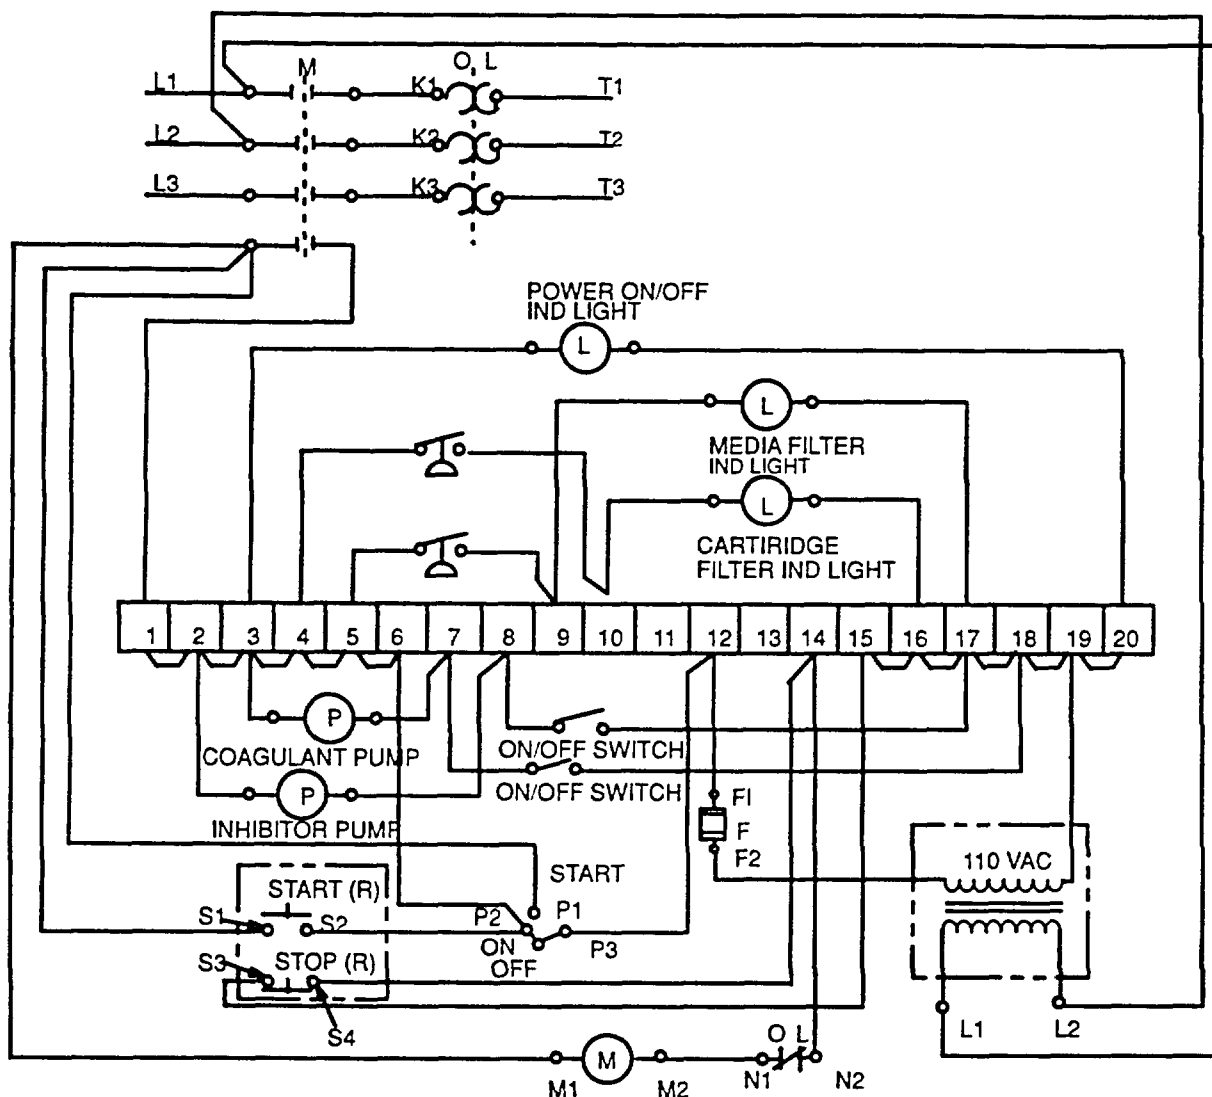

Figure 4-1. ROWPU Control Station Schematic
- a. With main circuit breaker P6 or P7 on switchboard closed (ON). Check control station input line voltage across points L1 and L2, L2 and L3, and L1 and L3 (Figure 4-1). If voltage across any two points is 0, power source is at fault. Go to step b to correct problem. If voltage across all three pairs of points is 440, go to step c to check control station output voltage.
- c. Check control station output line voltage across points T1 and T2, T2 and T3, and T1 and T3. If voltage reading across any of the terminal pairs is 0, check motor controller thermal units using Figure 4-1 as given in step d below. If voltage across all terminal pairs is 440, pump motor is at fault and check motor as given in paragraph 4-7.2.1.
- (1) Check continuity of ON/OFF/START switch in ON position from terminal board TB12 to TB6. If check indicates a closed circuit, go to step (2). If check indicates an open circuit, check continuity of wires from points P1 to TB6 and TB12 to P3. If check indicates an open circuit in wire, replace faulty wire. If check indicates a closed circuit in both wires, replace faulty ON/OFF/START switch.
- (2) Depress pump 1 or pump 2 local STOP switch and check continuity from TB14 to TB15. If check indicates closed circuit, go to step (3). If check indicates an open circuit, check continuity of wires from TB14 to S4 and TB 15 and S3. If check indicates an open circuit, replace faulty wires. If check indicates a closed circuit in both wires, replace faulty STOP switch.
- (3) Depress pump 1 or pump 2 local START switch and check continuity from P2 to L4. If check indicates closed circuit, go to step (4). If check indicates an open circuit, replace faulty wire. If check indicates an open circuit, check continuity of wires from P2 to S2 and L4 to S1. If check indicates closed circuit in all wires, replace faulty START switch.
- (4) Check continuity of wires from L4 to M1, M2 to N1, and N2 to TB14. If check indicates closed circuit, go to step h. If check indicates an open circuit, replace faulty wires.